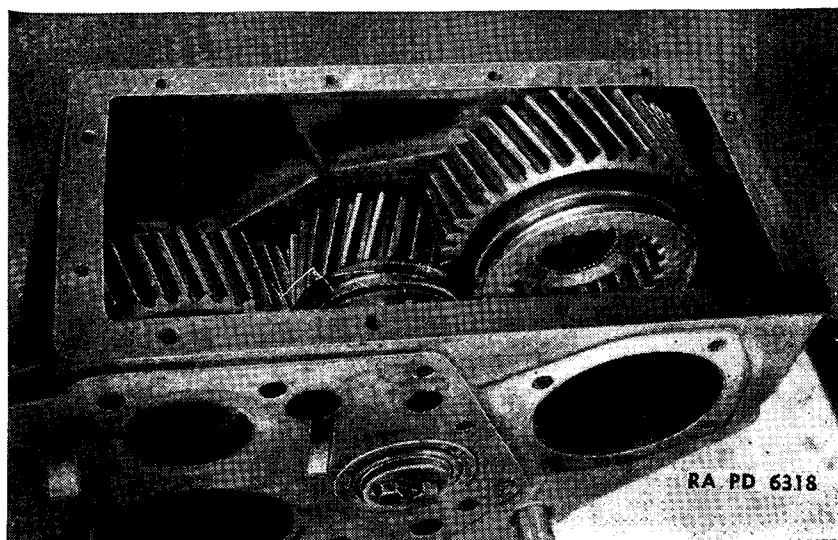

FIGURE 135. Transfer case front-drive shaft gear replacement.
(11) Replace intermediate shaft rear bearing cap—brass drift, hammer, $\frac{5}{8}$ -inch socket wrench. Replace bearing cup in rear bearing cap and assemble bearing cap and shims to case with four cap screws and lock washers.
(12) Replace intermediate shaft front bearing cup—brass drift, hammer. Set cup in place and tap until almost flush with case.
(13) Replace front-drive shaft gear needle bearings. Grease bore of gear with heavy grease and install 106 short needle bearings in two rows with spacer between (fig. 135).
(14) Replace front-drive shaft. Assemble front-drive shaft collar with front-drive shaft gear. Shoulder of collar sets into recess in